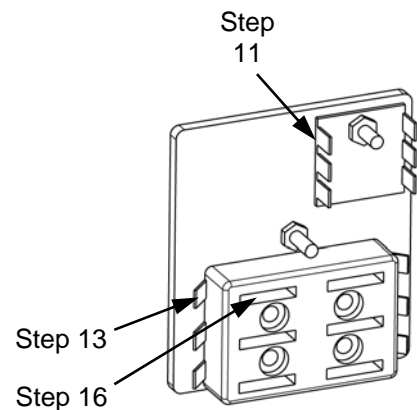

Figure 6
13. Locate the shorter fuse block to switch wire harness (9). Connect 90 degree connector of wire harness to an empty fuse terminal location (Figure 6).
16. Install 2 amp fuse (2) into fuse block location selected in Step 13 (Figure 6).